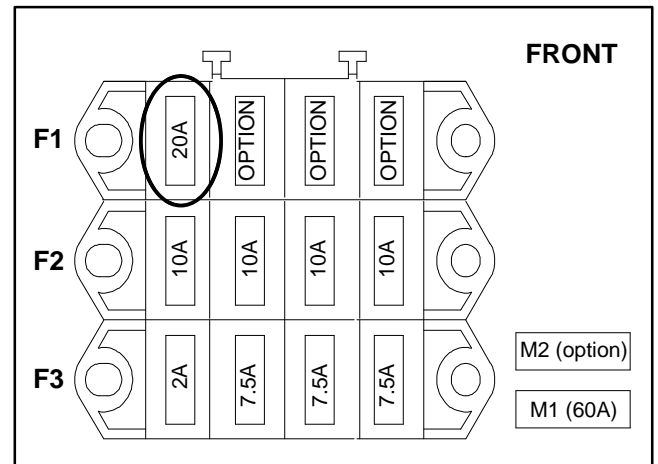

Figure 54
3. Remove 20A fuse (F1-1) (Fig. 54) from fuse block to prevent the engine from cranking.